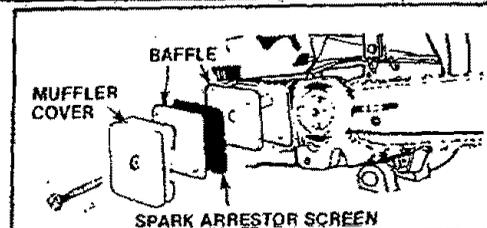

Figure 43
- Remove the Muffler Cover. Figure 43.